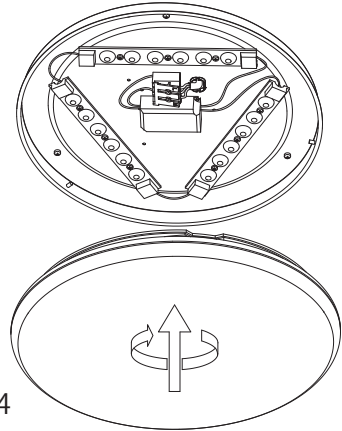

fig. 4
5. **fig. 4:** Put on the dome to the base plate (bayonet locking system).